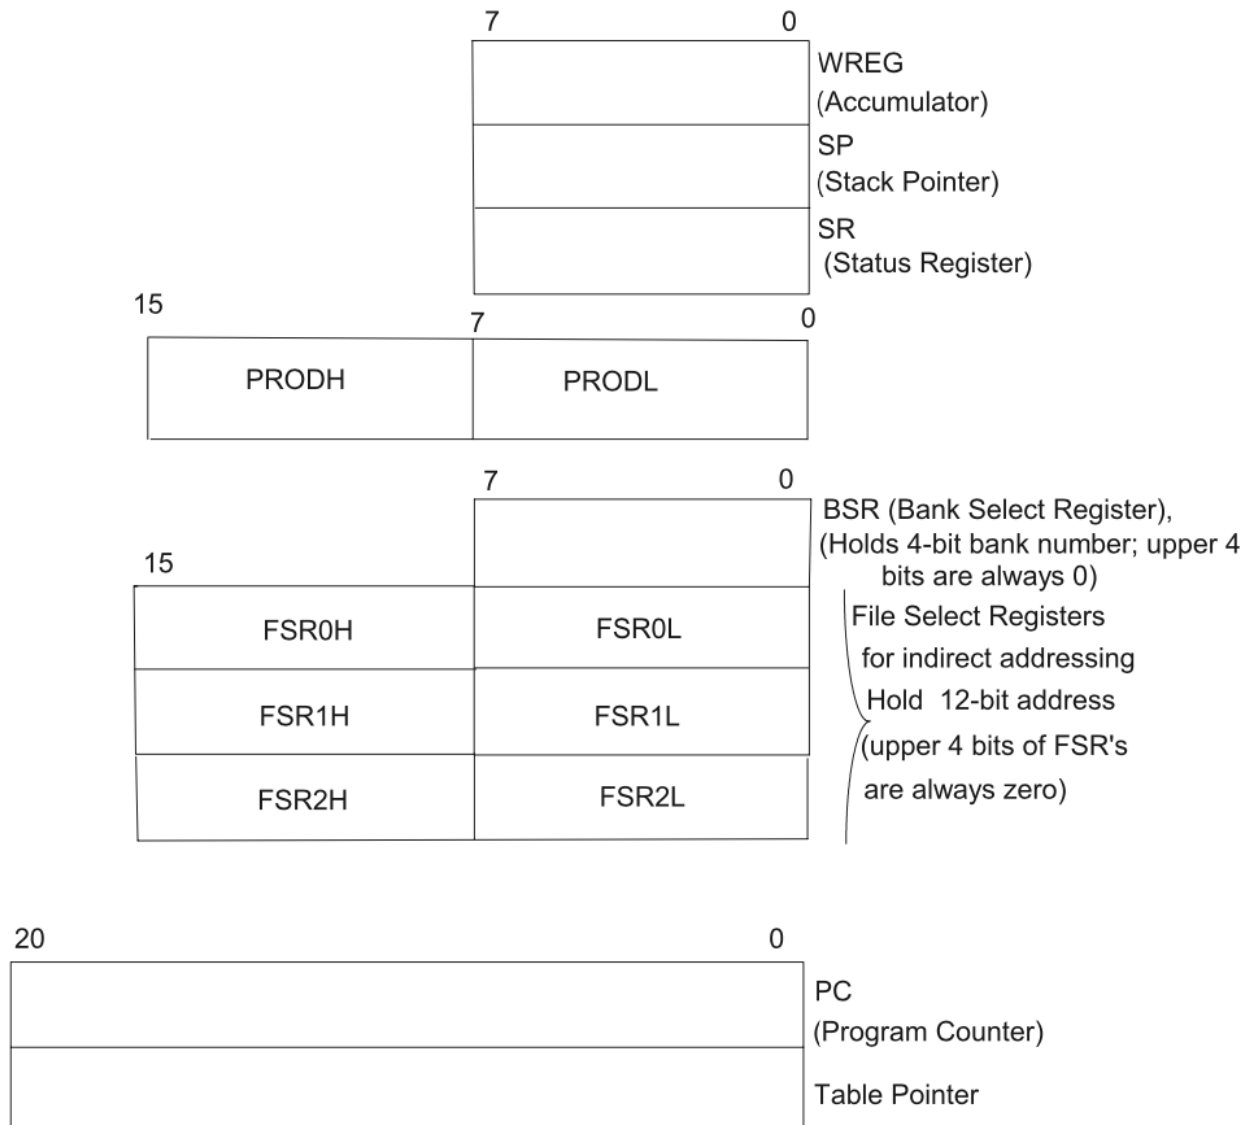

FIGURE 5.3 PIC18F registers
- Figure 5.3 shows the PIC18F CPU registers. All registers in the PIC18F 的所有register都映射到data memory，有特定的地址